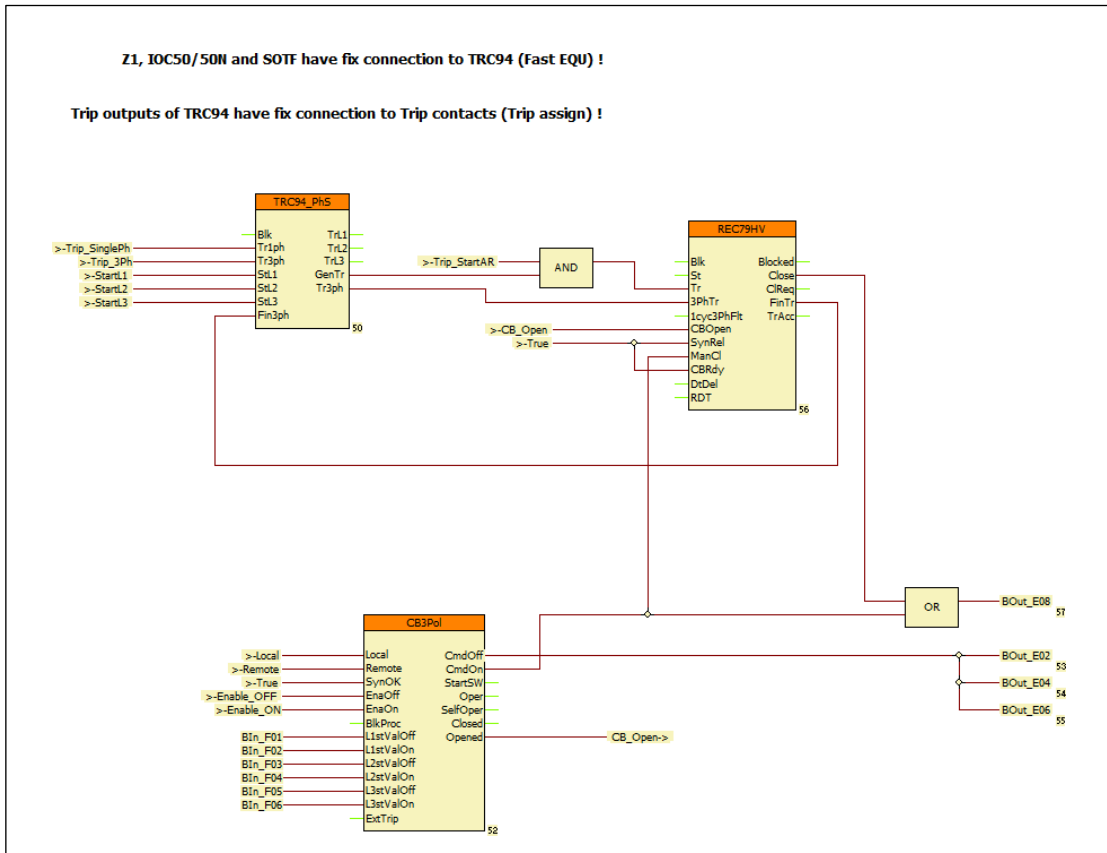

Figure 5-3 Example: Automatic reclosing and circuit breaker control
Figure 5-3 shows an example for the application of the automatic reclosing control block. In this Figure it is supposed that the fast protection functions operate according to the factory configuration and they control the TRIP contacts applying two steps of the preparation and command generation phases. This part of the program is not visible in “Master” level. (The description of the fast operating protection functions are listed in the configuration description of the devices.)
According to *Figure 5-3*, the local command issued via LCD of the device or the remote command received from the remote SCADA system is processed by the „CB3pol” functionblock (Output „CmdOff”). This control is programmed in the factory to „BOut\_xx” variables. The user can perform any modification in the graphic programming.
In *Figure 5-3* the close command is connected directly to a dedicated output. (This is usually the fourth contact of the TRIP hardware module.)
The evaluation of the status signals indicating the open state of the circuit breaker poles in OR gate is needed for the operation of the automatic reclosing function. According to the scheme of *Figure 5-3* the open state is indicated by at least one pole open state of the circuit breaker. (For simplicity, this Figure shows a realization without checking the FALSE signal of the closed states.)
*Figure 5-3* supposes that the CB ready signal is not connected to the device; accordingly the steady TRUE state signal is connected to the „CBRdy” input of the „REC79\_HV” automatic reclosing function. If the real signal is available, the signal must be connected similarly.
An extension to the example in *Figure 5-3* is the close command to the circuit breaker is generated by synchro-check. The enabling signal for the close command is generated by the „SYN25” software module. This module is described in details in a separate document. The needed input signals indicating the state of the voltage transformers („VTSBlk” and „Bus1VTSBlk”), must be programmed graphically.